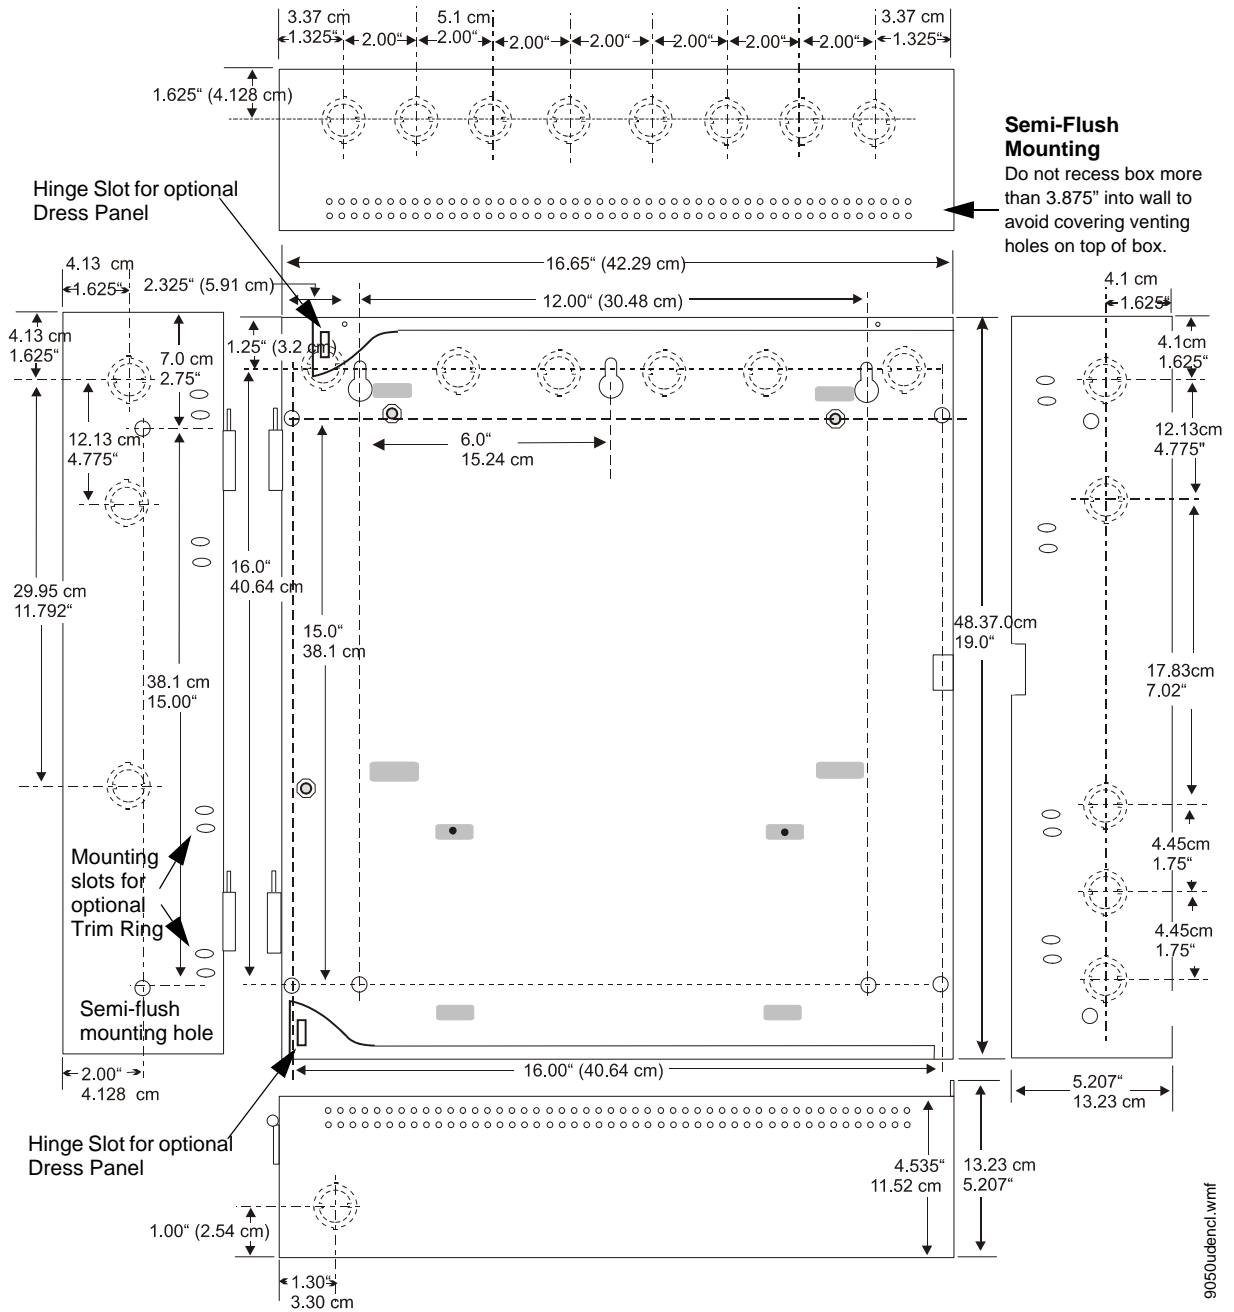

Figure 2.2 ES-200X Cabinet Mounting
1. Mark and pre-drill hole in the wall for the center top keyhole mounting bolt using the dimensions illustrated in Figure 2.2 on page 23.